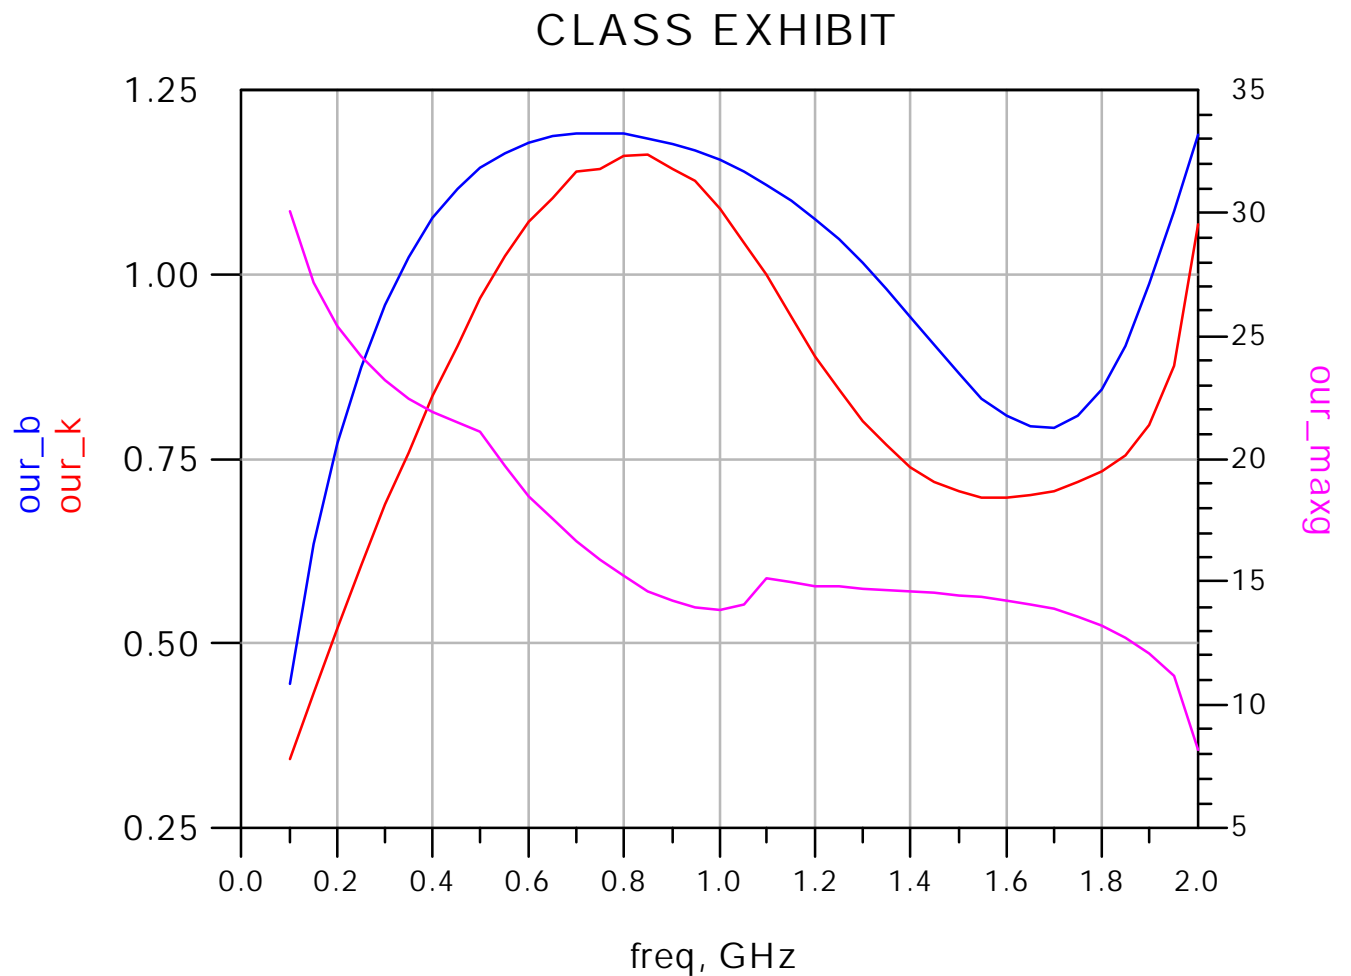
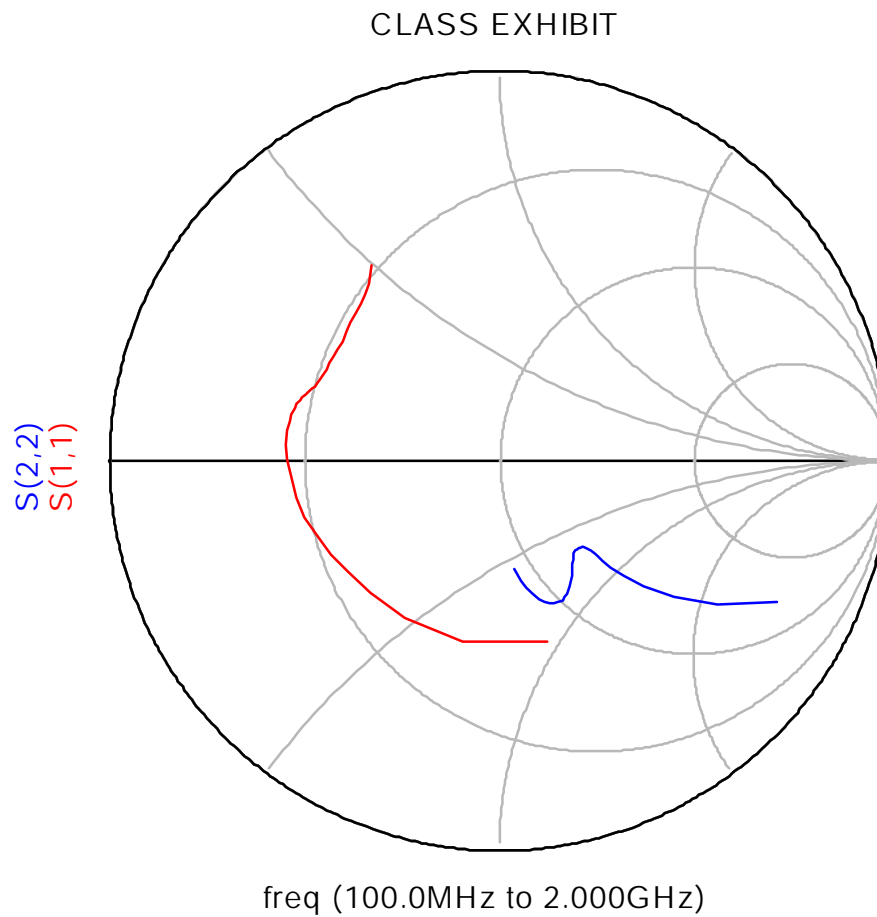
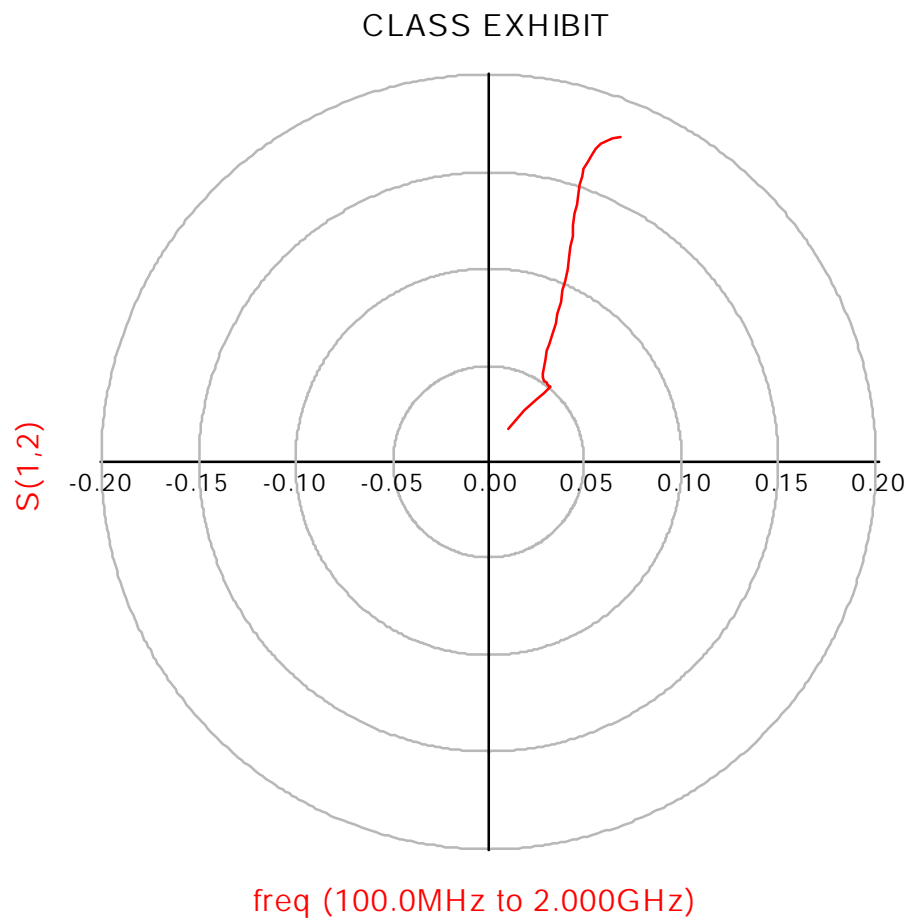
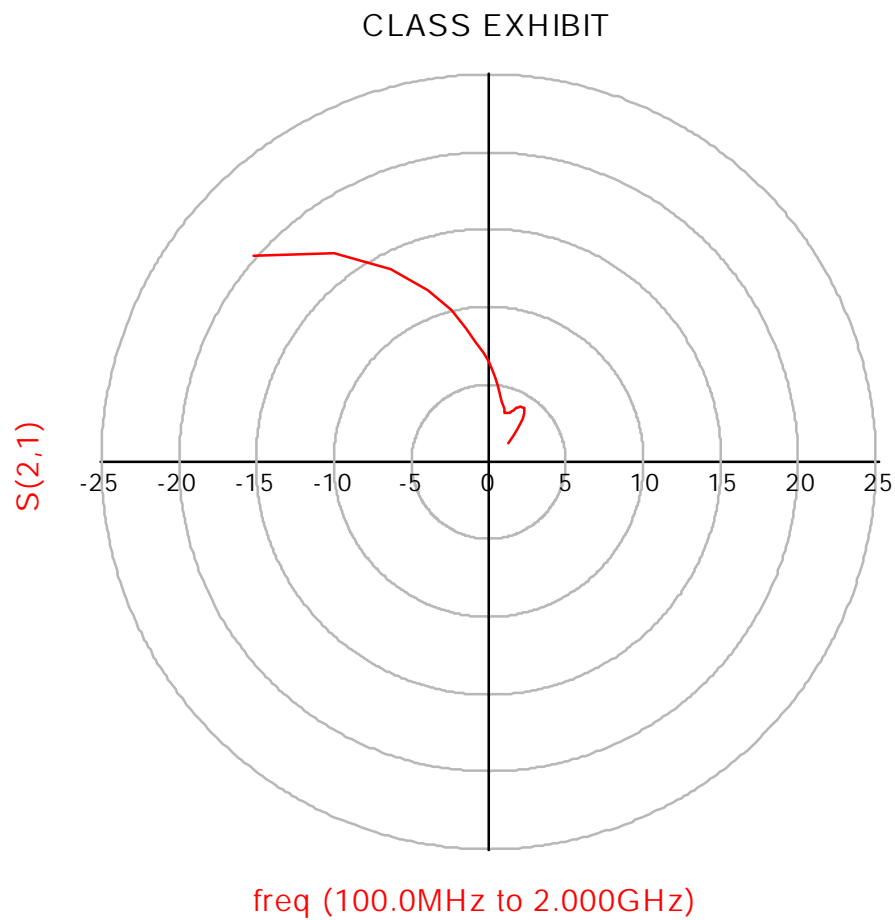

Figure 2. Frequency Response For K, B1 And GMAX. (GMAX reports the maximum gain for stable frequencies and reports MSG for potentially unstable frequencies.)
Figure 3. Frequency Response For S_{11} And S_{22} .
Figure 4. Frequency Response For S_{12} .
Figure 5. Frequency Response For S_{21} .
2. Evaluate the device stability and plot K, B1, GMAX, S_{11} , S_{21} , S_{12} and S_{22} to obtain the results shown in Figure 2, Figure 3, Figure 4 and Figure 5. Notice that the device is unconditionally stable over only a limited bandwidth.